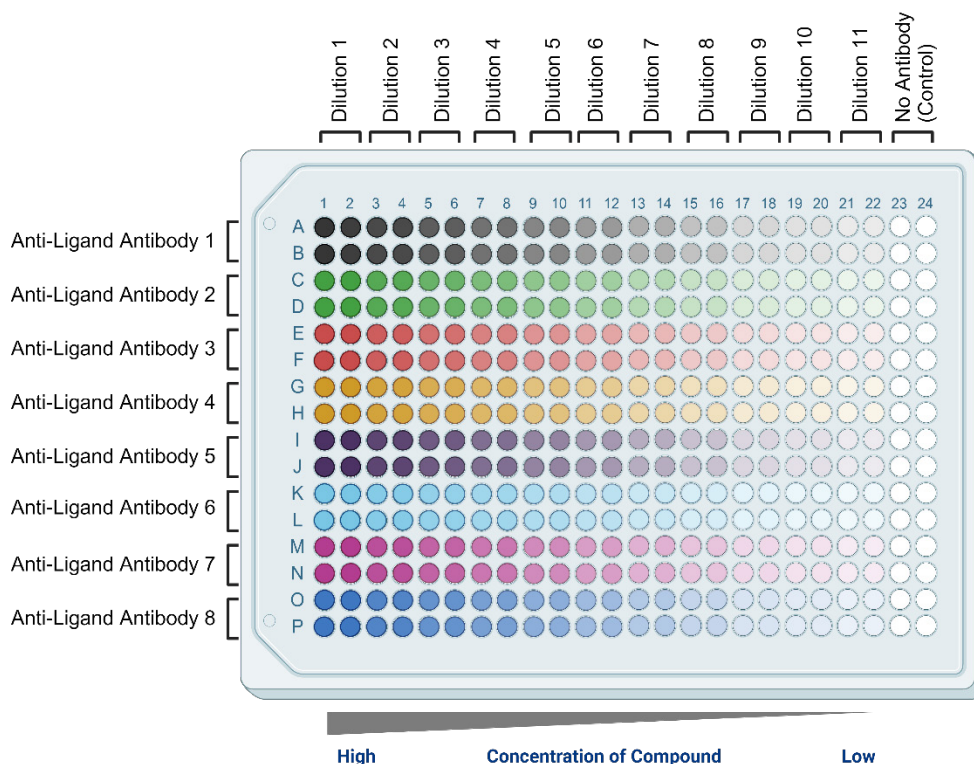

Figure 11. Assay Plate Map – Anti-Ligand Antibody
5. Using a 12-channel pipette, add 5 μ L of each 5X antibody/agonist mix in quadruplicate to the designated antibody rows of the assay plate (e.g., antibody/agonist mix 1, with Dilution 1 in Rows A and B, Columns 1 and 2; antibody/agonist mix 2 with Dilution 1 in Rows C and D, Columns 1 and 2). Repeat for the remaining antibody/agonist mix as indicated in Assay Plate Map – Anti-Ligand Antibody (Figure 11).